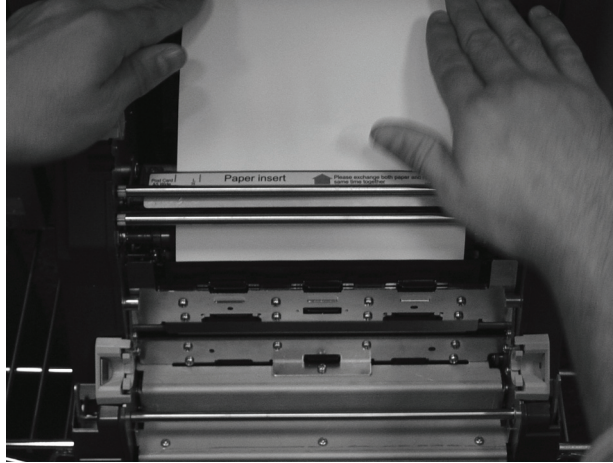

Figure 16. Unthreading the Printer Paper
4. Once the ribbon is removed, gently pull the paper to unwind it from the paper path (see Figure 16).